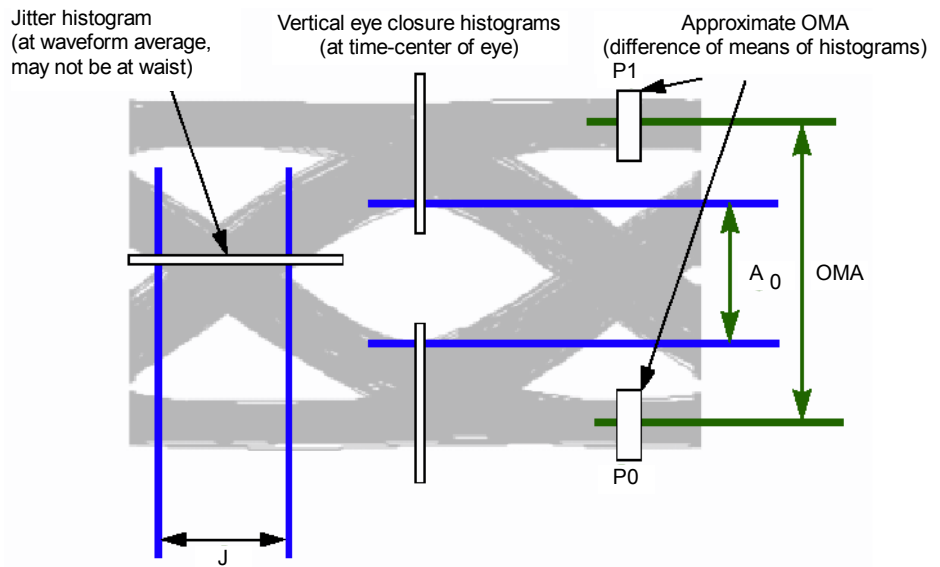

Fig. 5.1.4-1 Diagram of VECP measurement
3. Measure the histogram distribution at the center between the crosspoints based on the time (see Fig. 5.1.4-1), and then obtain a range that includes 99.9% of this distribution for both Voh and Vol. The Eye aperture at this time is defined as A_0 .